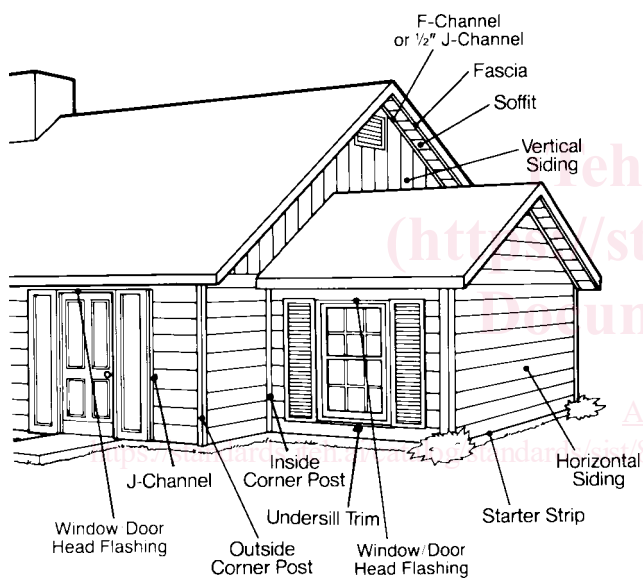

FIG. 2 Panels and Accessories
3.2.3 *fascia*—the trim along the perimeter of roofs or roof overhangs. (See Fig. 2.)